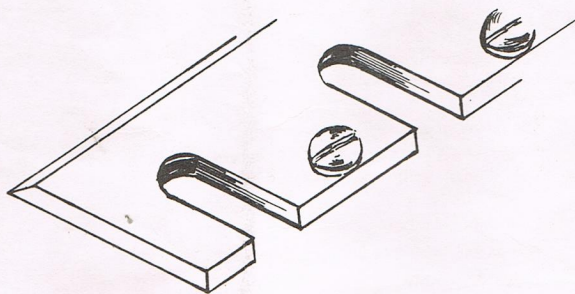

Fig. 7
3. Remove hex head screws (X).
4. Remove blade binder (UV).
5. Remove blade (VW).
6. Insert new blades making certain that the screws on the blade are down securely and on the same side as the chamfer on the blade. See fig. 7.
8. Replace blade binder and Hex Head Screws (X).